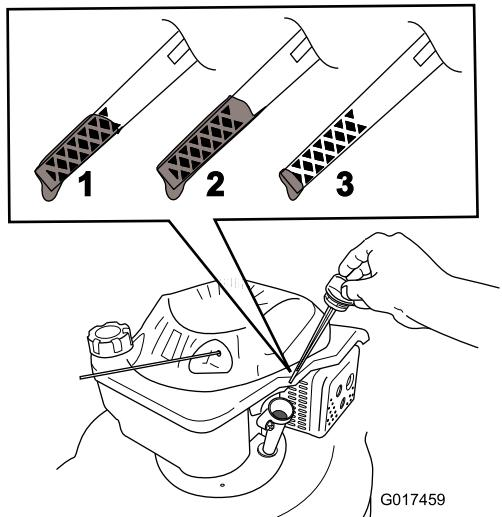

Figure 7
2. Remove the dipstick (Figure 7).
3. Slowly pour oil into the oil fill hole, wait a few minutes, and check the oil level on the dipstick by wiping the dipstick clean and then inserting, **but not screwing in**, the oil fill cap into the hole (Figure 7).